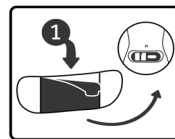

Figure 3. Remove tab #1 and apply PillCam Genius link device to body
2. With the rear of the PillCam Genius link device facing the healthcare provider, remove tab 1 from the rear of the device by gently pulling it down and to the left as shown in Figure 3.